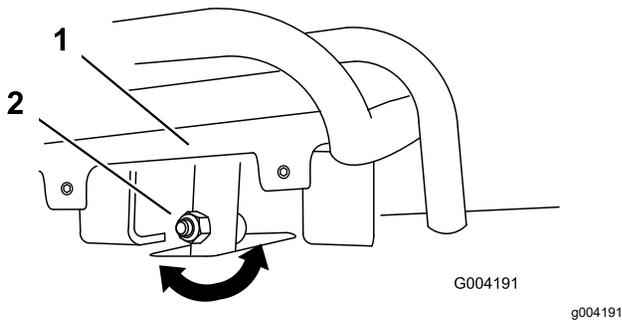
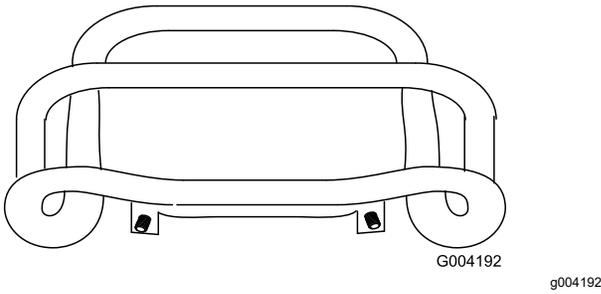

Figure 49
Figure 50
4. If the front of the traction control does not rest square and flush with the reference bar, loosen the nut and bolt in the stem of the traction control (Figure 49).
5. Adjust the traction control so that it rests flush against the reference bar when it is pulled straight back (Figure 49 and Figure 50).
- C. Loosen the flange nut and bolt in the stem of the traction control (Figure 49).
- I. Adjust the traction control so that it rests flush against the reference bar when it is pulled straight back (Figure 49 and Figure 50).